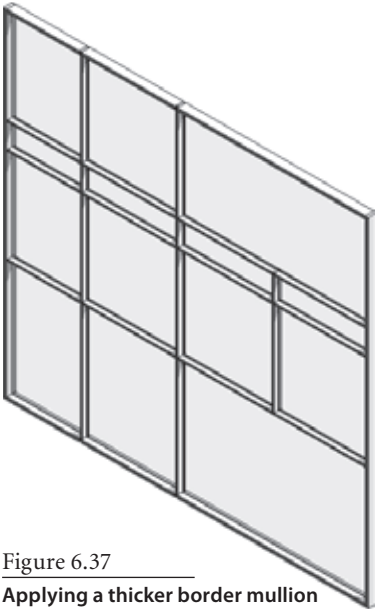

Figure 6.37
- C. Name the mullion type. In the Type Properties, change the thickness to the new value to 8" (200 mm) and the two parameters for width (this represents half the width of the mullion) to 1.25" (35mm). Figure 6.37 shows the finished exterior mullions.